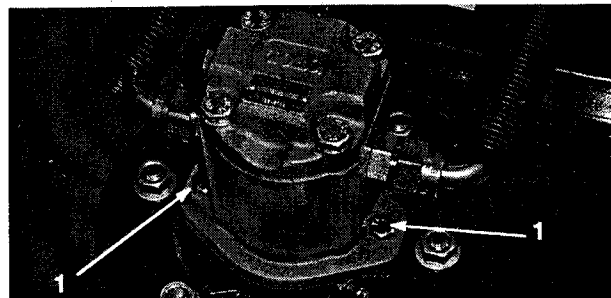

Figure 9
2. Disconnect and remove hydraulic motor from deck (Fig. 9). Cover top of spindle to prevent contamination.
4. Install hydraulic motor to deck (Fig. 9). Make sure O-ring is in position and not damaged.